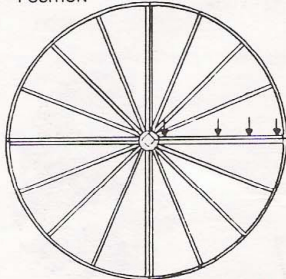

Figure 3.
STEP 3 Place the two halves together, face down, line up the pre-drilled holes and place the 1/4"-20x2" bolts through the three outermost and one innermost holes. See Figure 3.